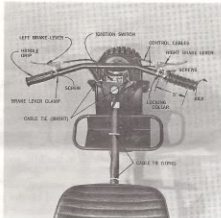

Figure 4
8. Loosen (DO NOT REMOVE) the two screws in the throttle control assembly and mount throttle control to right handle bar with throttle cable in a slightly forward and down position to make a large even arc. Do NOT kink. Position leading edge of locking collar 5" from end of handle and tighten screws securely. Caution: Do NOT mount throttle control further than 5" as this will cause the grip to bottom on handle bar and impair returning action of control. (See Fig. 4.)
- Remove screws and clamps from both brake lever assemblies. Trace cable from right wheel brake and assemble lever to right handle bar just ahead of throttle control with lever in forward position. Tighten screws securely. Attach left brake lever to left handle bar in like manner. (See Fig. 4.)
- Tie down control cables at four positions as shown in Fig. 4. Smooth surface of cable tie must be to outside to allow locking of tie. Snip off exposed end after tie has been tightened.
- Check to see that the throttle control is in the idle position (rotated away from operator) and that the engine throttle linkage is in the full idle position. (See Fig. 4.)